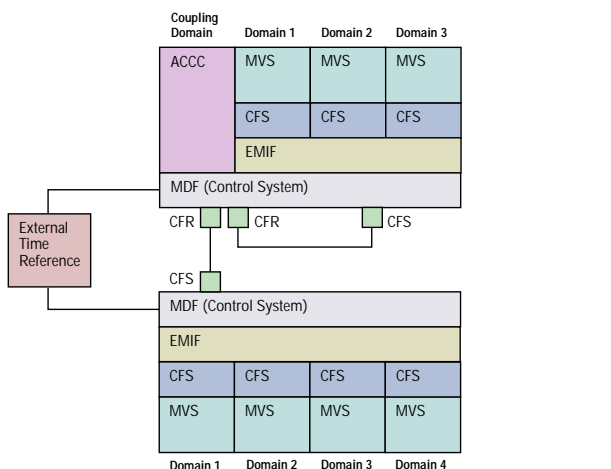

Figure 2-1b. Two-System Parallel Sysplex using a Coupling
2. When a second system is added to the Parallel Sysplex, ETRAs are necessary to synchronize the two systems' clocks, and coupling links are added from the second system to the Coupling Domain on the first system (figure 2-1b).